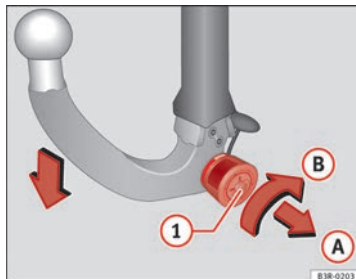
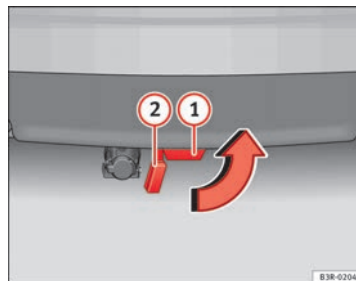

Fig. 174 Removable towing bracket: Removing the ball joint
Fig. 175 Rear bumper: fitting the cover piece
- Insert the key in the lock (1) ⇒ Fig. 174 on the knob.
- Take hold of the ball joint and pull out the knob in direction (A).
- Keep hold of the knob and turn it as far as it will go in direction (B).
- Pull the ball joint down out of the mounting fixture (1) ⇒ Fig. 175. The cover piece will cover the mounting fixture automatically (2).